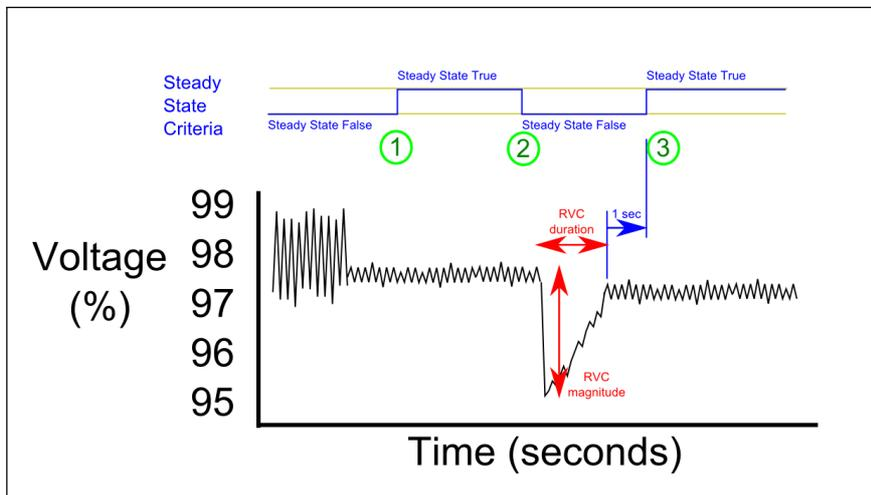

Figure 6. 'Rapid Voltage Change' defined.
Figure 6 is provided to give an illustration of a RVC event. The first steady state true condition (1) occurs after nominal voltage variations have been within the 1 % tolerance for 1 second. This steady state ends (2) when voltage variation exceeds the 1 % setting. A second steady state condition occurs at (3) as voltage variations returned to within 1 % tolerance for at least 1 second. As the maximum magnitude of the change occurring between the two steady states was a) greater than the 5 % detection limit and b) less than the dip/swell setting, this event is classified as a RVC, with its duration and magnitude being recorded.